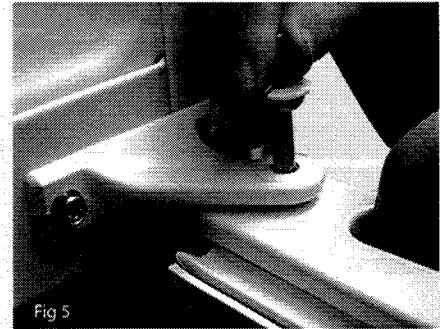

Fig 5
5. Open door, raise slightly and pull out pin from centre bracket (Fig 5), retain pin and any washers, lift door off bottom right hinge.
13. Locate base of door onto bottom left hinge pin, align top left of door to centre hinge bracket, locating hinge pin through centre hinge (Fig 5) into hinge bush.